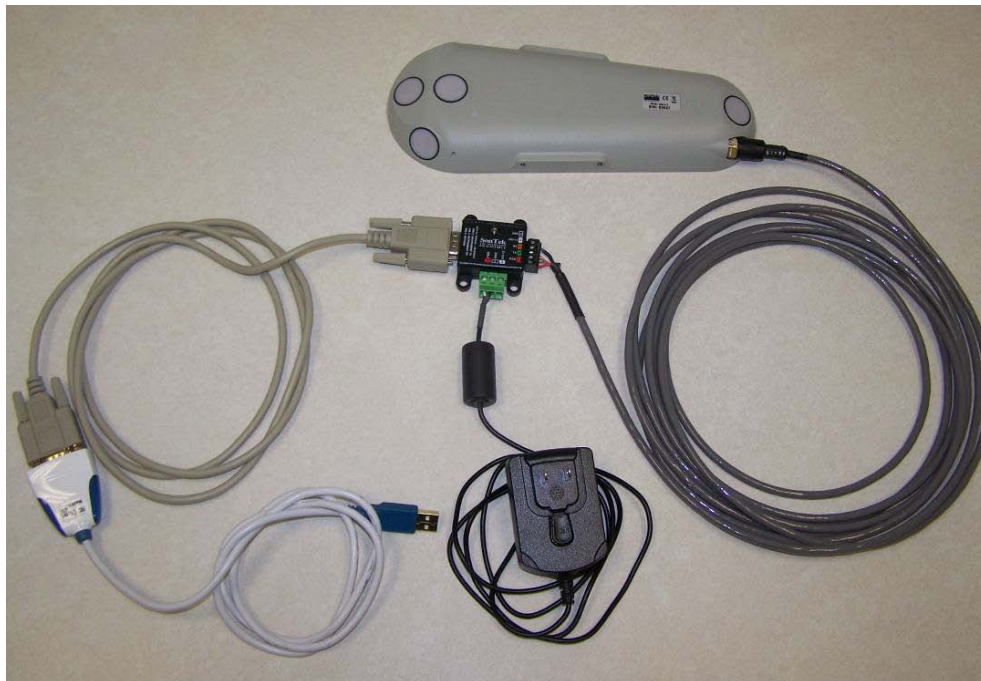

Figure 12. Connecting the USB-Serial adaptor to cable adaptor
- If your computer has a built in serial port, we do not recommend using this port as it may not be reliable at the high data rates used by the IQ. We recommend using the USB to serial converted included with the system (Figure 12).